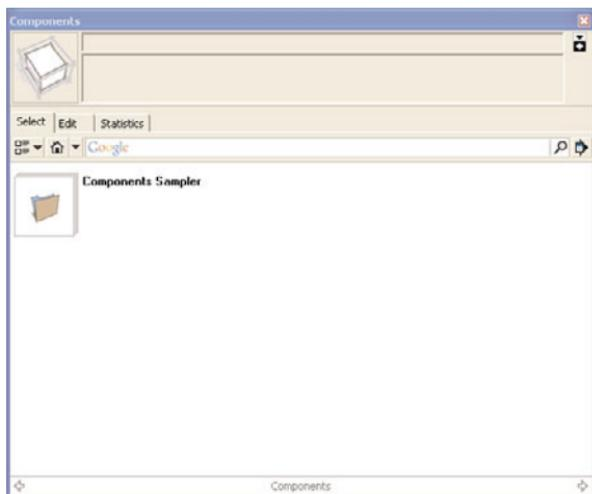

FIGURE 6.12 The Component dialog box.
3. Select the Window menu’s **Components** item. This will open the Components dialog box you see in Figure 6.12. (I’ve used the mouse to enlarge the Components dialog, dragging one corner, to make what’s going on in the dialog box clearer.)